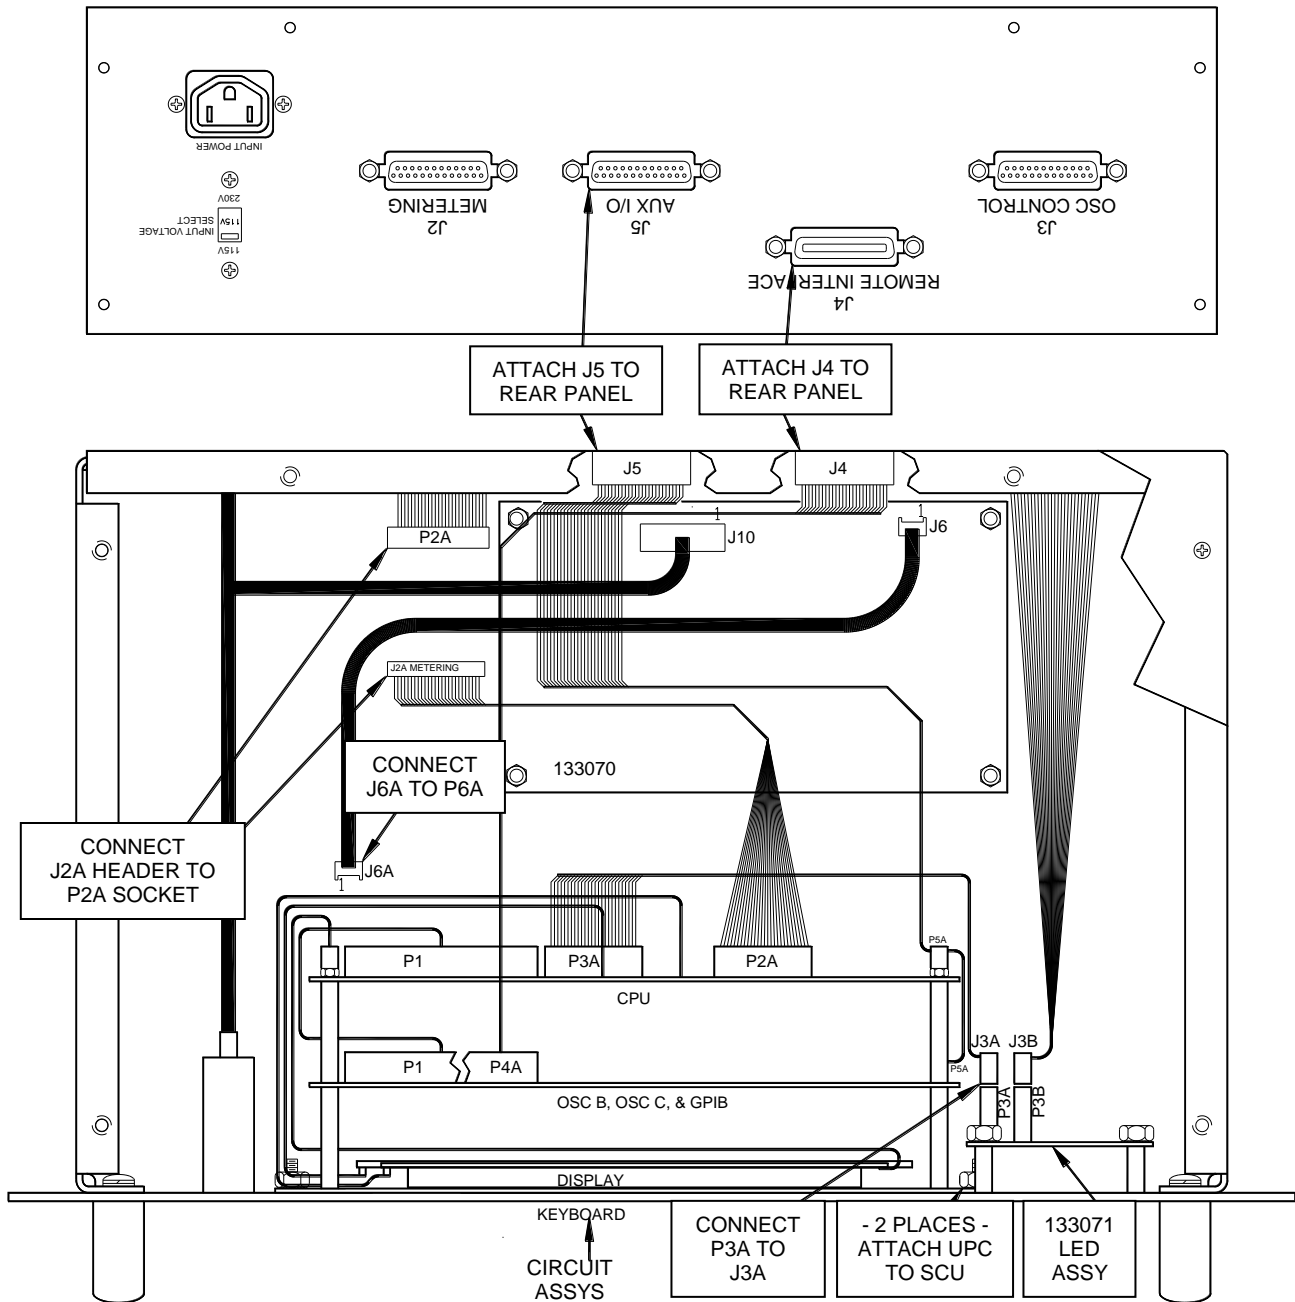

FIGURE 3.5 INSTALLATION
- Disconnect the Input Line Cord from the rear of the SCU chassis (Figure 3.5).
- Install the UPC with 2 nuts attaching the UPC front panel to the SCU front panel. See Figure 3.5